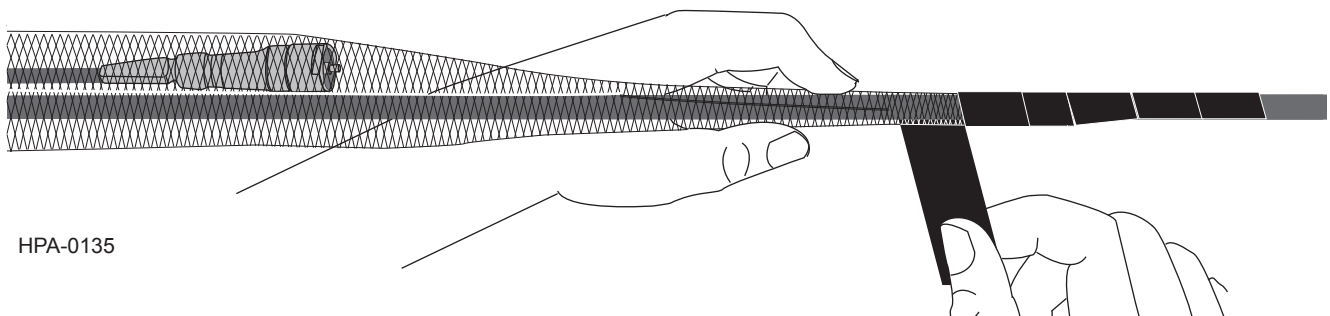

Figure 24
**Step 5:** Unwrap the black vinyl tape holding the FS of the mesh to the local cable, making sure to not bend, twist or pull the OptiTip® connector, tether or the local cable (Figure 24).